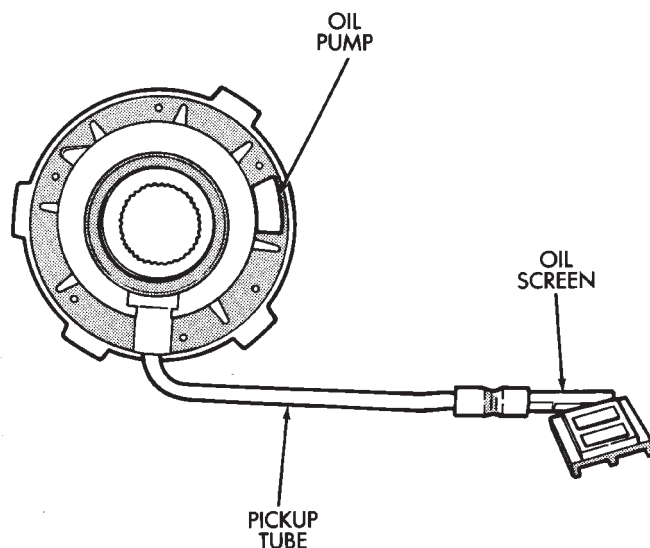

Fig. 8 Removing Oil Pump, Pickup Tube And Screen
- (6) Connect electrical wires to speed sensor.
- (7) Connect vent hose to transfer case vent (Fig. 8).
- (8) Align and connect propeller shafts. Tighten shaft attaching bolts to 19 N•m (170 in. lbs.) torque.
- (9) Fill transfer case with Mopar ATF Plus, or Dexron II automatic transmission fluid.
- (10) Install rear crossmember if removed. Tighten crossmember bolts to 41 N•m (30 ft. lbs.) torque.
- (11) Remove transmission jack and transmission support stand.
- (12) Connect transfer case shift lever to shift lever rod.
- (13) Check and adjust transfer case shift linkage if necessary.
- (14) Lower vehicle.
(14) Remove oil pump, pickup tube and oil screen from rear case (Fig. 8).
(15) Remove pickup tube and screen from pump.